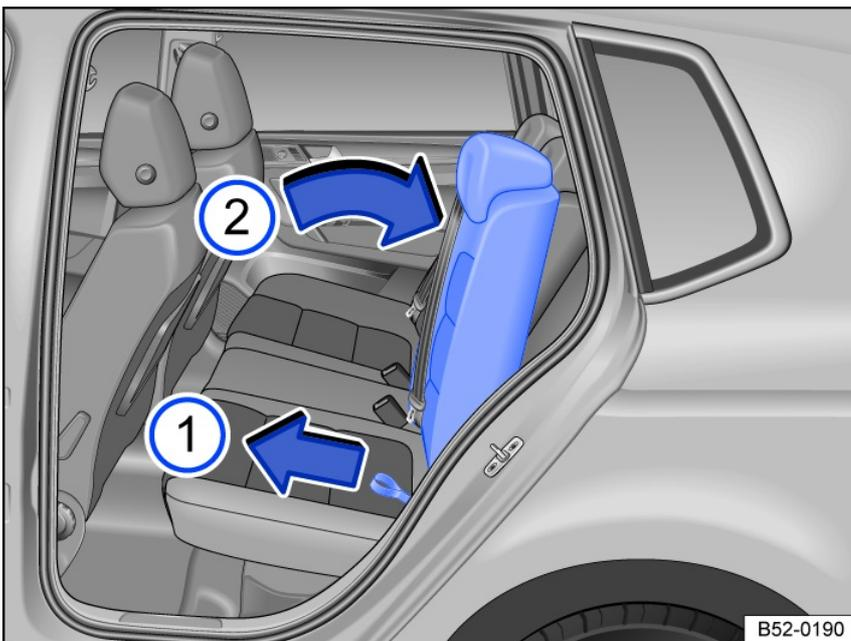

Fig. 77 Adjust the rear seat backrest.
1. Press on the right or left rear seat backrest with your hand, while pulling its loop with the other hand *fig. 77* ①.
2. Push the rear seat backrest against the spring force with your hand to move it to the desired position *fig. 77* ②.